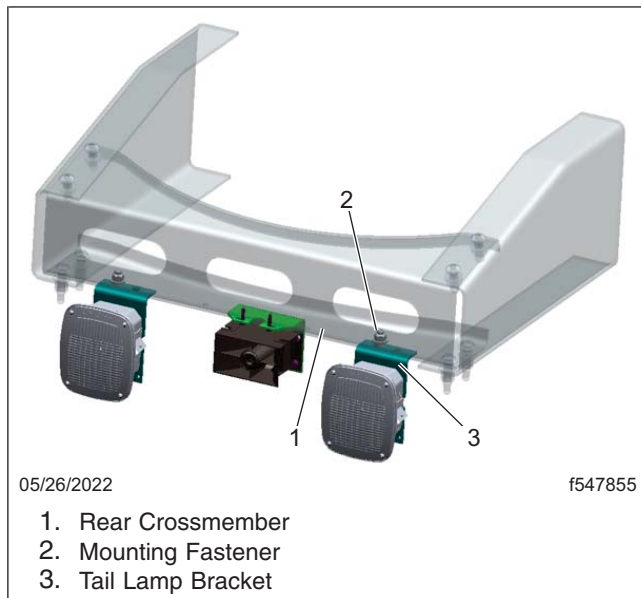
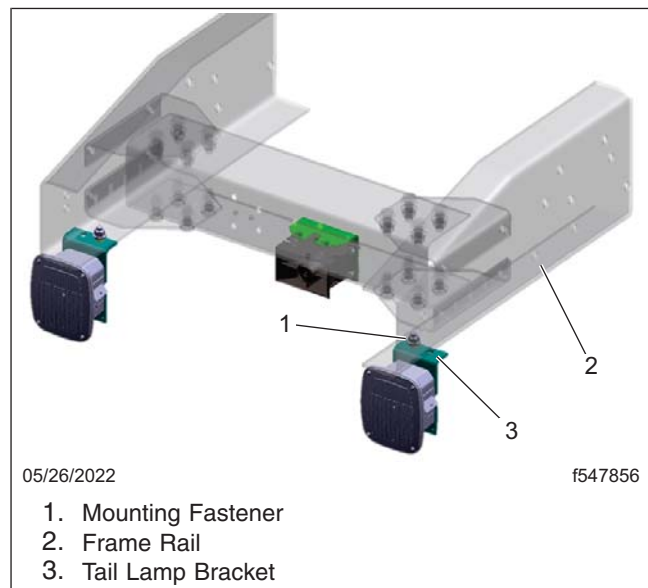

Fig. 5, New Tail Lamp Bracket Installation on the Rear Crossmember
Fig. 6, New Tail Lamp Bracket Installation on the Frame Rail
- Install a new tail lamp bracket in the same location as previously removed, using the fasteners removed in step 6. For vehicles with the tail lamp bracket attached to the rear crossmember, see Fig. 5. For vehicles with the tail lamp bracket attached to the frame rail, see Fig. 6.